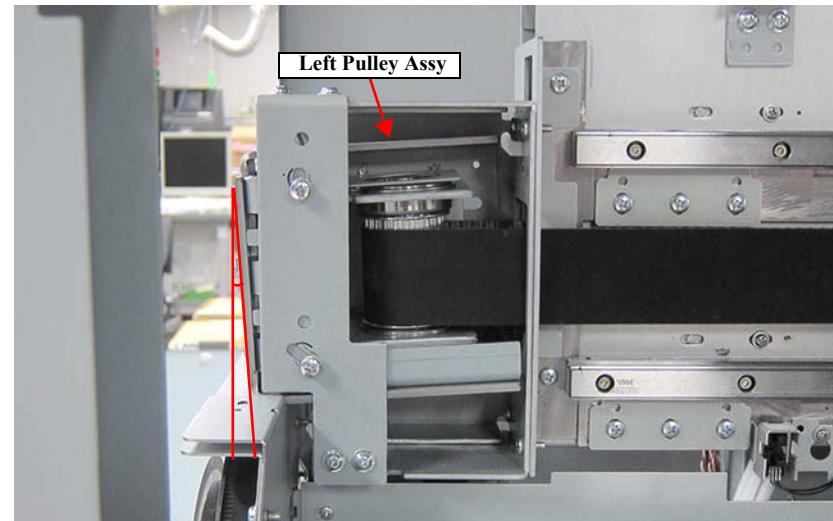

Figure 4-48.
10. Tighten the 8 screws C. Figure 4-48
13. Tighten the 2 screws A and 4 screws B. Figure 4-48